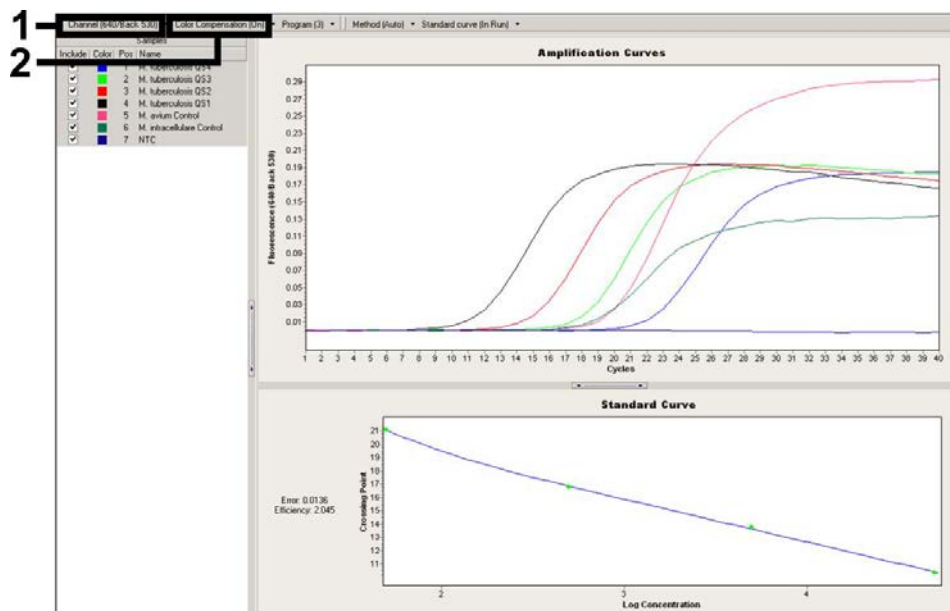

Figure 11. Activation of the Color Compensation File and selection of the fluorescence channel.
For the analysis of PCR data proceed as follows (see Figure 11):
2. The LightCycler Software Version 4.0 contains a file termed **Color Compensation File** which compensates multicolor analyses for interferences between fluorescence channels. Open this file during or after the PCR run by activating **Color Comp (On/Off)** and then the **Select Color Compensation** button (see Figure 11).